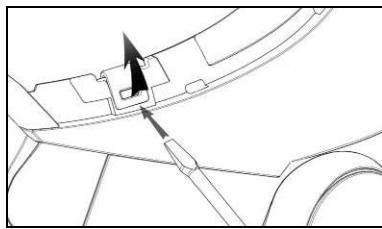

Fig. 28
- Unhook the right clip from the shell, levering upward using a flat head screwdriver (or a similar tool), as shown in figure 28.